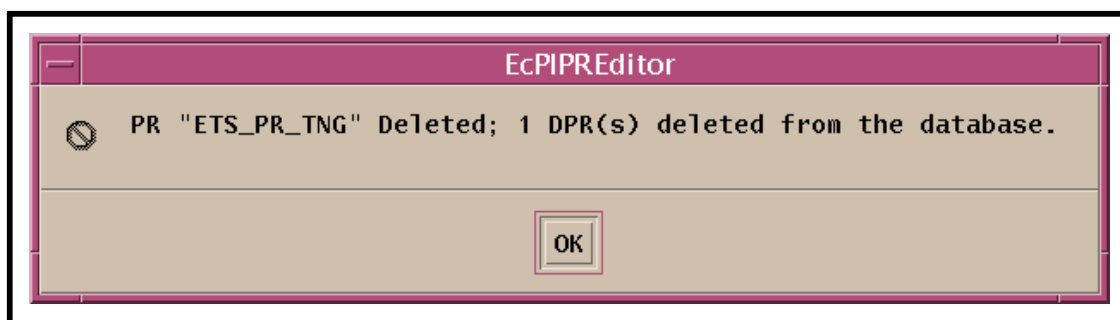

Figure 27. Production Request Deletion Completed Dialogue Box
- A deletion completed dialogue box (similar to Figure 27) is displayed.